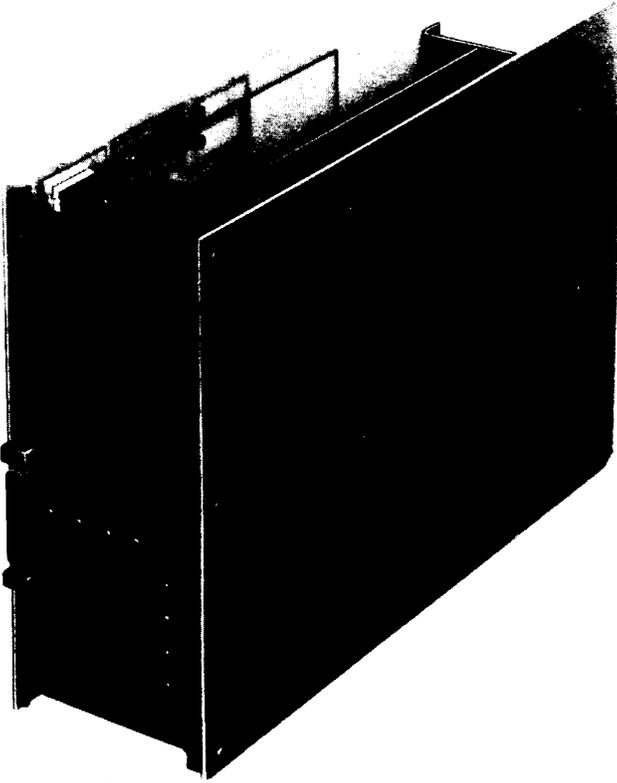

Fig. 5—Data Auxiliary Set 806E-Type
**2.11** The DAS (Fig. 5) consists of a printed wiring board, two microprocessor boards, and various hardware. An 840308019, 25-pin connector is located on the front of the DAS and provides interface with the data set. Printed wiring board terminals are located on the rear of the DAS, enabling it to plug into the data mounting. The DAS for test line 1 is mounted in positions 4 and 5 of the data mounting, while the DAS for test line 2 is mounted in positions 7 and 8.